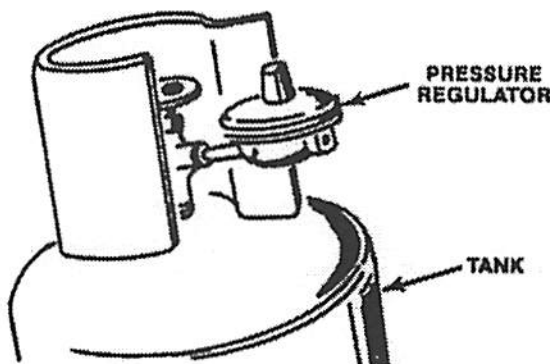

Fig. 38. LPG pressure regulator.
As mentioned previously, all LPG containers have their own regulators which should be set to approximately 11 inches water column (WC) pressure. At the present time it is only necessary for you to know that the regulator for LP gas installations is located at the tank, as shown in Figure 38.